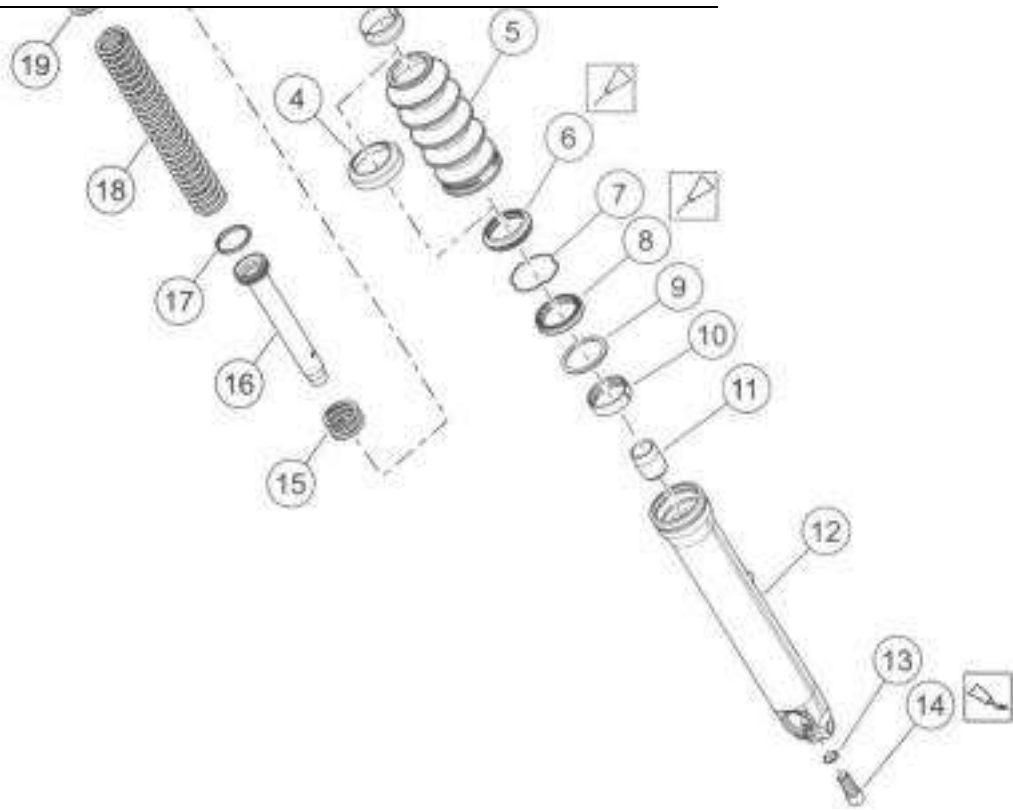

Figure 3-76. Standard Fork Components
- e. **FXBBS, FXST:** See See Figure 3-76.. Slide upper end of protector (5) up until it contacts underside of lower fork bracket.
2. See Figure 3-76. Remove fork tube plug (1) and O-ring (21).
1. See Figure 3-76. Install fork spring.
- a. Fully extend fork. Install spring (18) with tightly wound end at bottom.
- a. Install new O-ring (2).
- b. Install fork tube plug (1). Tighten.